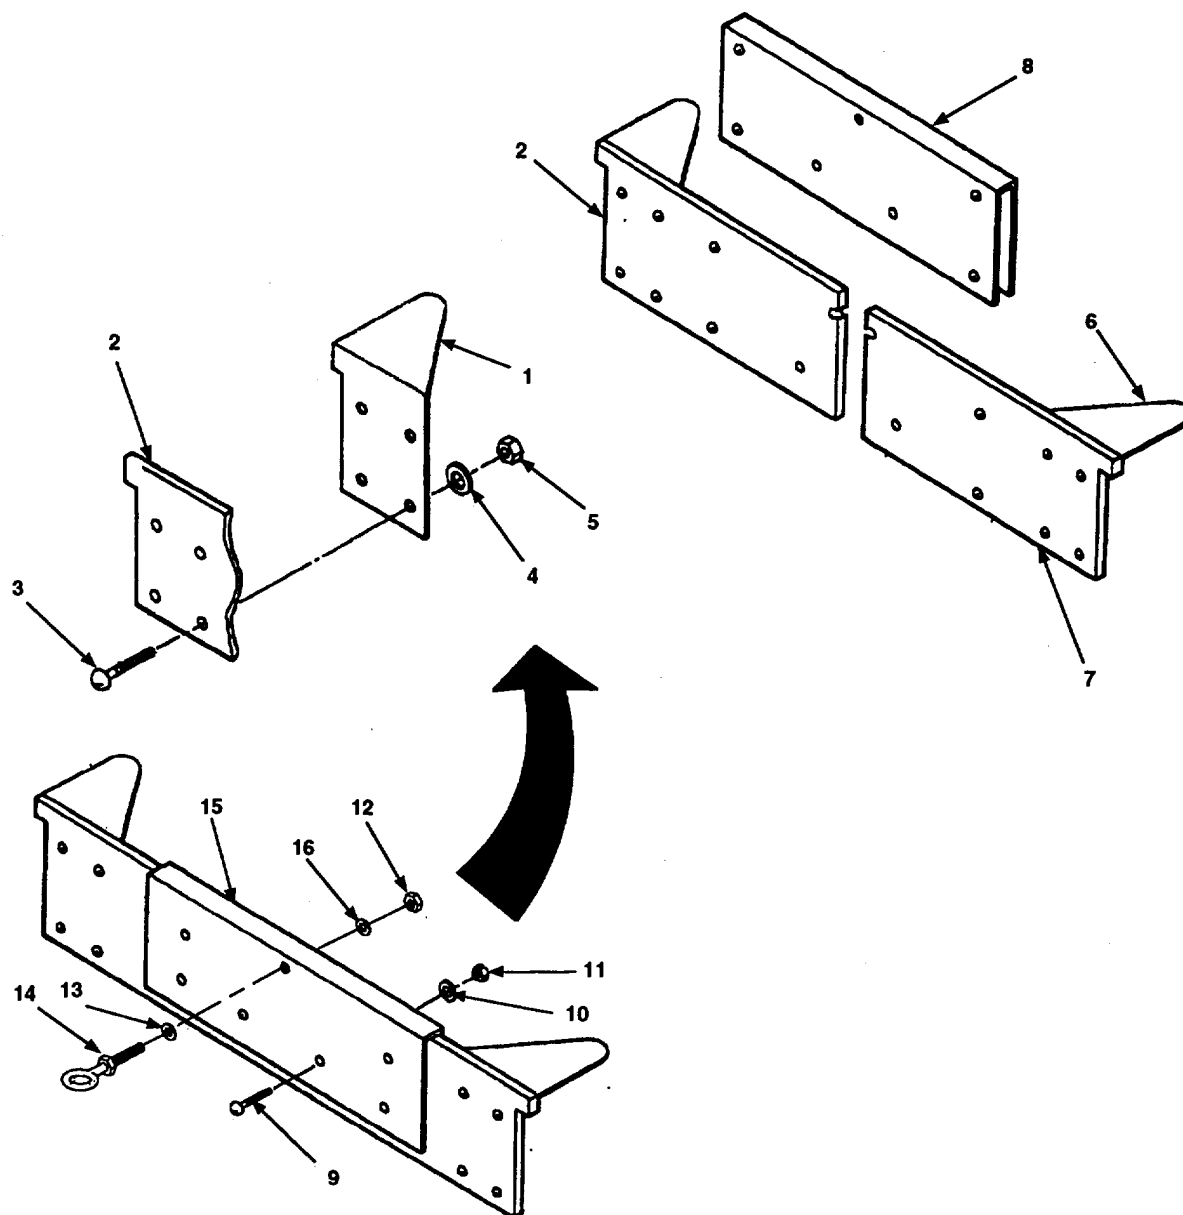
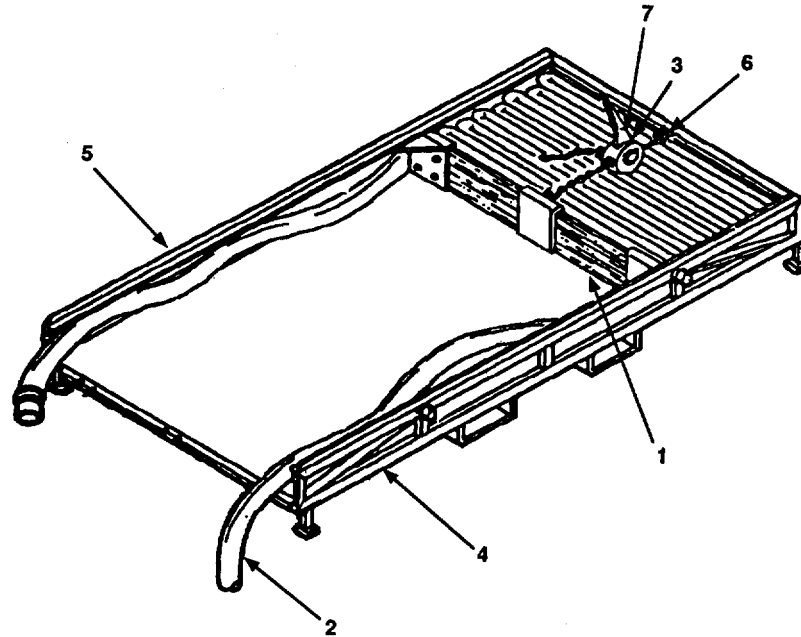

Figure 2-60. Pullboard Flange and Coupling Sleeve Installation.
Figure 2-62. compress Hoseline.
- e. Align holes on left pullboard flange (Figure 2-60, 1) with holes on pullboard half (2).
- f. Install four square-neck bolts (3), flat washers (4), and self-locking nuts (5) in holes.
- g. Tighten each nut (5) until heads on bolts (3) are flush with surface of pullboard half (2).
- h. Repeat steps e through g to install right pullboard flange (6) on second pullboard half (7).
- i. Place pullboard halves (2 and 7) in coupling sleeve (8). Align holes in pullboard halves (2 and 7) with holes in coupling sleeve (8).
- j. Install six cap screws (9), flat washers (10), and self-locking nuts (11) in holes.
- k. Tighten each self locking nut (11) until pullboard halves (2 and 7) are firmly secured in coupling sleeve (8).
- l. Install nut (12) and flat washer (13) on eyebolt (14).
- u. Place pullboard assembly (Figure 2-62, 1) against hose (2). Make sure eyebolt (Figure 2-60, 14) on pullboard assembly (Figure 2-62, 1) faces eyebolt (3) on rear of flaking box assembly (4). Position pullboard flanges (Figure 2-60, 1 and 6) beneath metal rim (Figure 2-62, 5) on inside of flaking box assembly (4).
- v. Attach hook (6) of chain hoist (7) to eyebolt (3) in rear of flaking box assembly (4).
- w. Attach hook (8) of chain hoist (7) to eyebolt (Figure 2-60, 14) on pullboard assembly (Figure 2-62, 1).